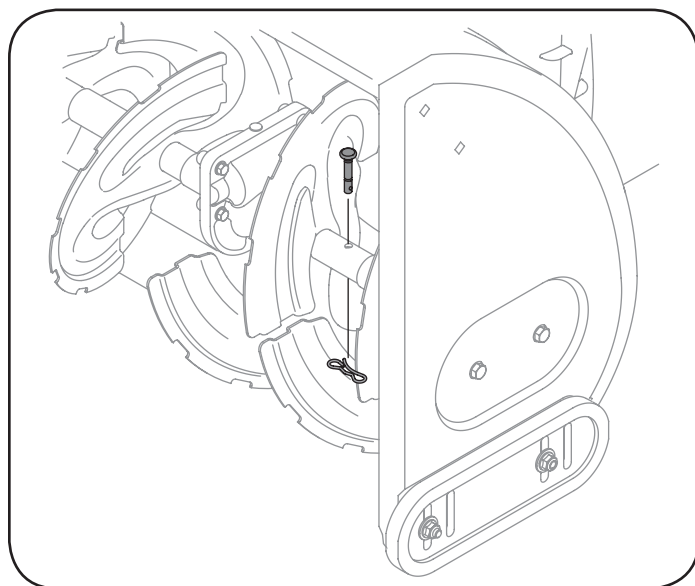

Figure 50
- The auger is secured to the spiral shaft using gold colored shear pins (Sears OEM Part No. 738-04124A). See Figure 50.